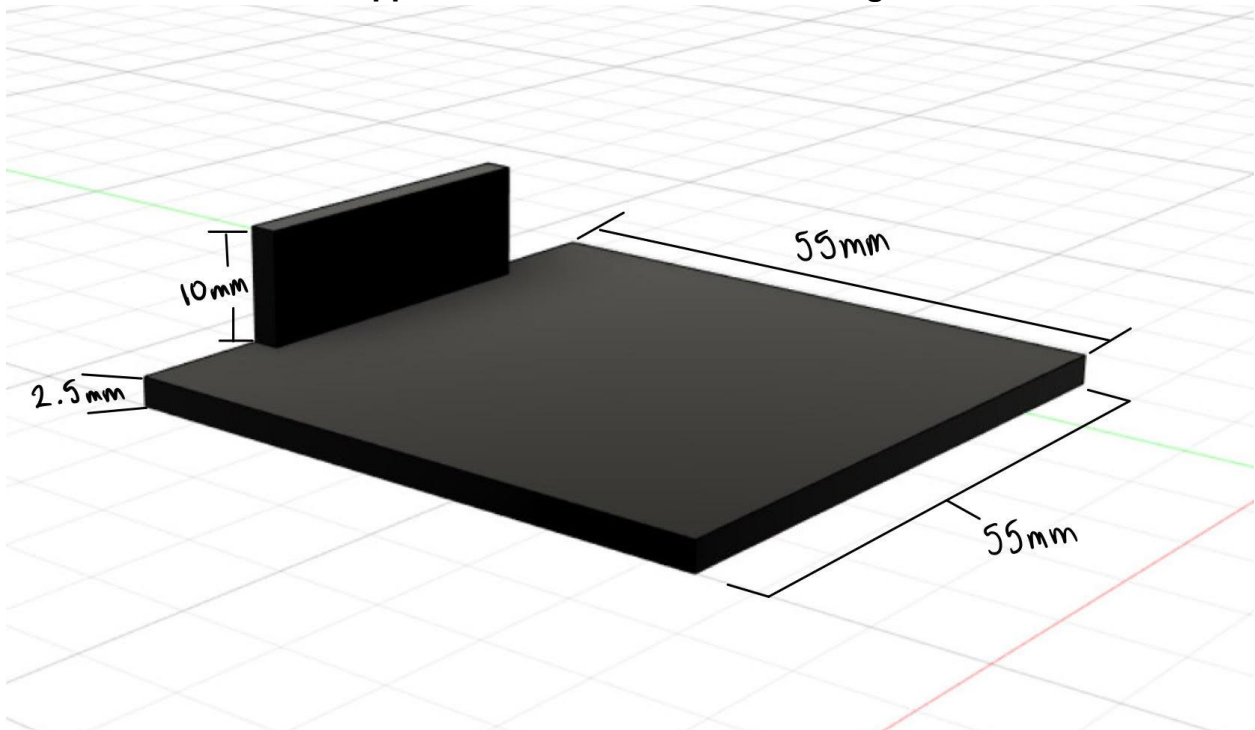

Figure C.1: Ultrasonic Distance Sensor Holder and Dumbbell Stand w/ measurements
2. Create the stand shown in Figure C.1 in a CAD software program such as Fusion360 to the dimensions given in the image and 3D print two of these using the stronger ABS filament